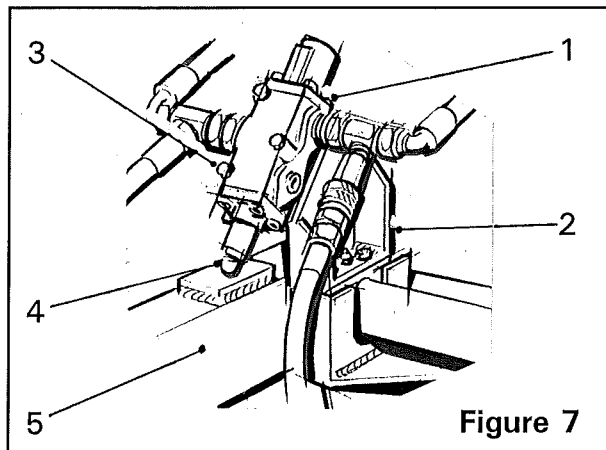

Figure 7
The rotors are driven by the hydraulic motor (*item 8, figure 5*) fed from the harvester mounted hydraulic pump. The diverter valve (*item 1, figure 7*) mounted above the lift arm is designed to automatically cut off the oil supply to the motor when the topper is in the raised position, so stopping the rotors from turning.
To adjust the diverter valve, the topper lift arms must be in the raised position. Slots in the support bracket (*item 2, figure 7*) allow for adjustment.
Loosen the cap screws (*item 3, figure 7*) and slide the valve until the spool (*item 4, figure 7*) touches and compresses centrally on the lift arm (*item 5, figure 7*). At the top of the diverter valve is a return spring to push down on the top of the spool when the topper is lowered. The spring is encased for cleanliness and does not require any adjustment.